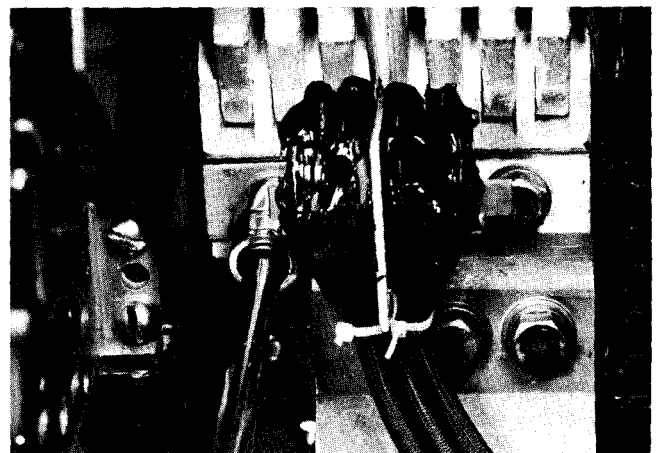

Figure 37.
3. Remove the left hex-head bolt. Discard the plain washer and install the switch assembly as shown in Figure 37, using bolt and lockwasher. Torque the bolt to 250 inch-pounds while holding the unit in the correct position.